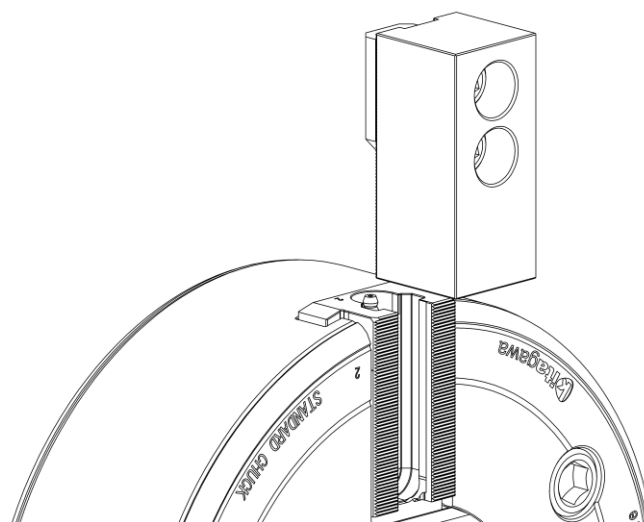

Figure 12-2 Inserting Tnut-Plus and soft jaw into master jaw
- To maintain the installation repeatability of the Tnut-Plus, when insert the Tnut-Plus and the soft jaws into the master jaws, and also tightening the mounting bolts, place the master jaws on top. (See Figure 12-2)